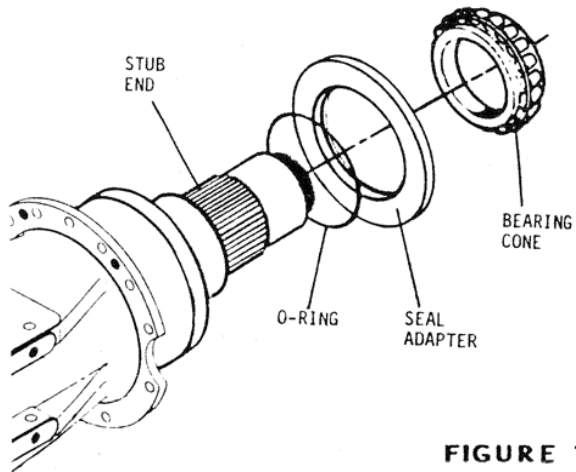

FIGURE 19
4. Install o-ring (Figure 19) onto stub end against flange taper.